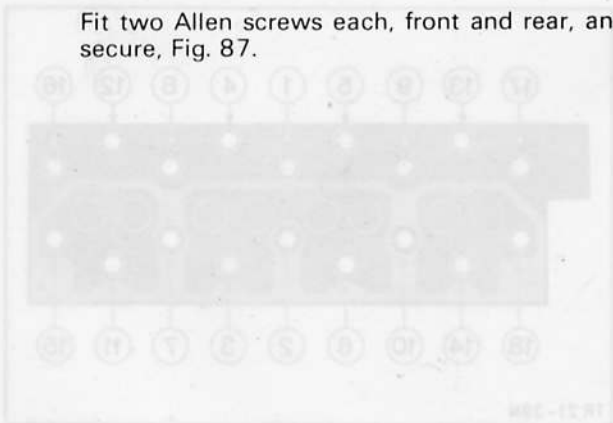

Fig. 87. Tighten front and rear sump bolts
- Fit two Allen screws each, front and rear, and secure, Fig. 87.